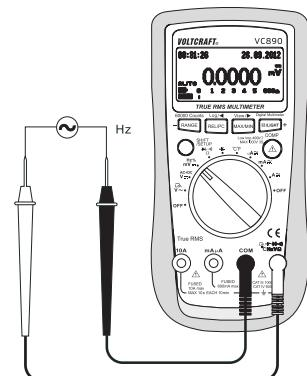

Fig. 4
1. Turn on the DMM and select the measuring range “mV \sim Hz %”. Press the SHIFT/SETUP button (3) until “Hz” appears in the display.
2. Insert the red test lead in the °CHzVΩ measuring socket (7), the black test lead in the COM measuring socket (8) (Fig. 4).